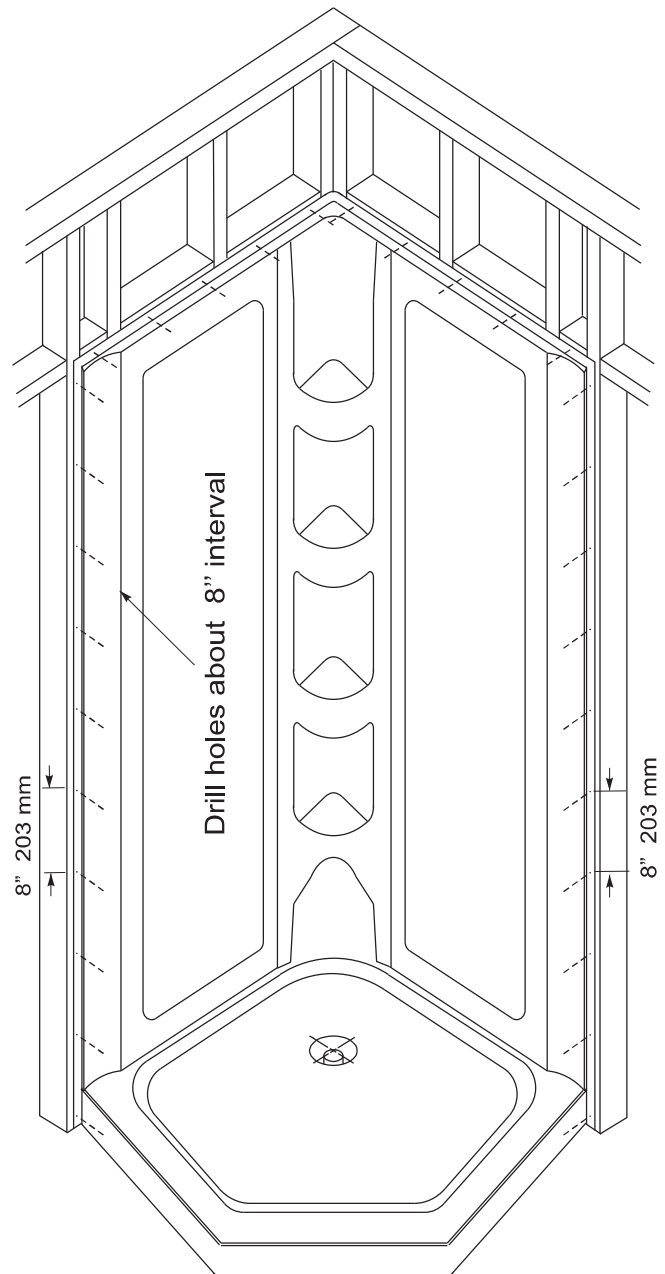

FIGURE 2 - FASTENING THE UNIT
9. Drill 1/8" (3mm) holes at approximately 8" (200mm) intervals around the flanges as shown Figure 2. The holes should go just through the fibreglass.